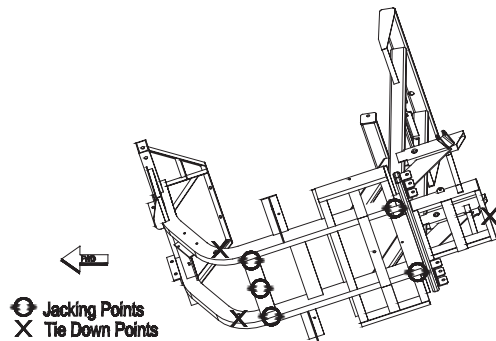

Figure 24 - Jacking and Tie Down
- Jack the vehicle only from the side of the vehicle, on the main frame rail, at the point where the tub or floor panel support and the main frame rail are welded (See page 64, Figure 24). Alternative locations include the rear frame rail and the center of the front cross member.